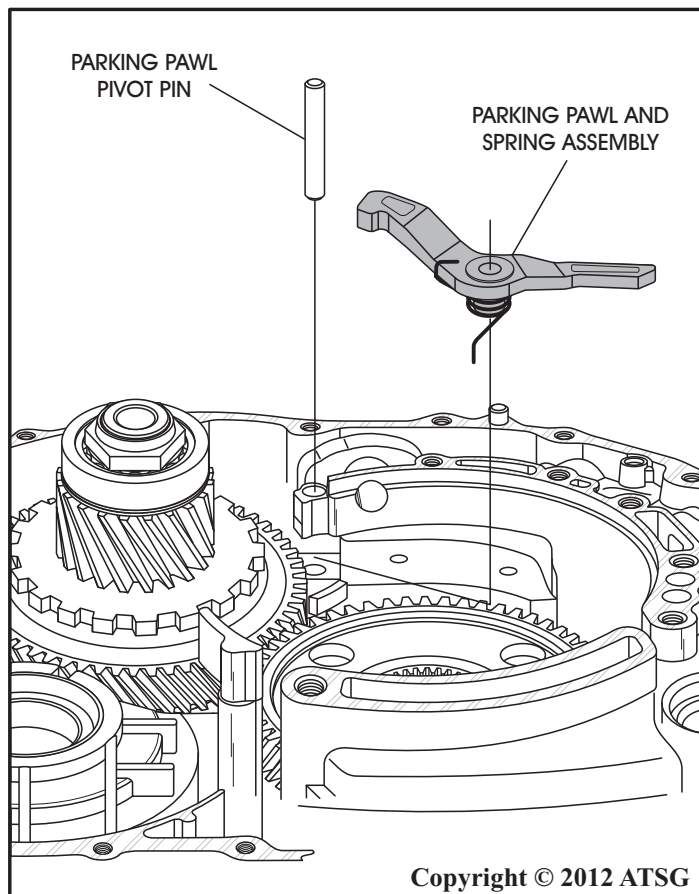

Figure 72
40. Remove the parking pawl pivot pin, as shown in Figure 72.
41. Remove the parking pawl, and return spring as an assembly, as shown in Figure 72.